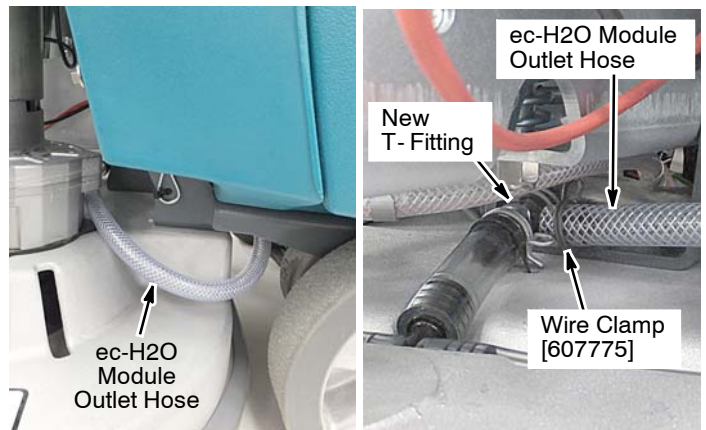

Fig. 56
6. **Disk Model:** Route the ec-H2O module outlet hose to the new T-fitting as shown (Figure 54). Using wire clamp, connect hose to T-fitting (Figure 56).